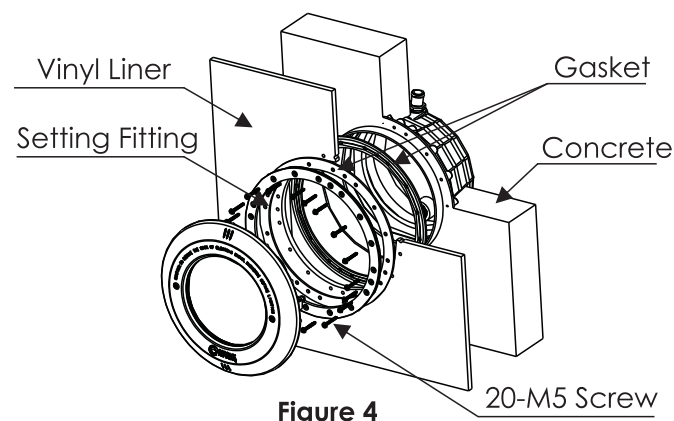

Figure 4
- 4) Install the Niche as shown in figure 4.